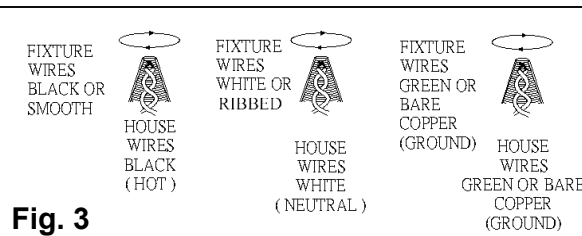

Fig. 3
CONNECTING THE WIRE (See fig.3)
15. Connect the electrical wires as shown in Fig. 3, making sure that all wire connectors (M) are secured. If your outlet box has a ground wire (green or bare copper), connect the fixture's ground wire to it. Otherwise, connect the fixture's ground wire directly to the crossbar (P) using the ground green screw (N) provided.
16. Tuck wire connectors (M) neatly into the outlet box and raise canopy (U) over collar loop (T) and secure with collar ring (Y).
17. Install (5) five candelabra base bulbs (J) up to 60 watts each or CFL or LED equivalent (not included) in accordance with the fixture specification. — **DO NOT EXCEED THE MAXIMUM WATTAGE RATING! (NE PAS DEPASSER LA PUISSANCE NOMINALE MAXIMALE!)**
18. Insert glass shades (K) into cups (H).